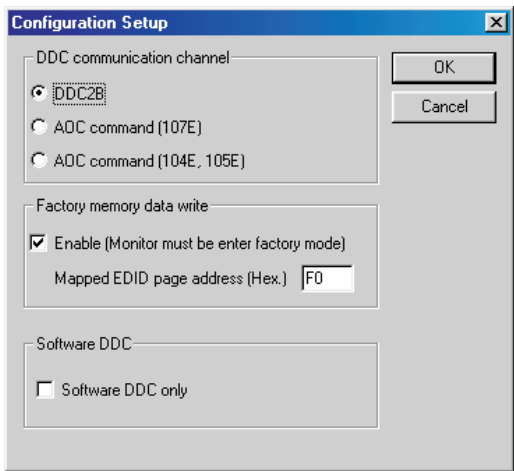

Fig. 16
1. Click  icon from the tool bar to bring up the Configuration Setup windows again. Then, select "Software DDC only" as shown in Fig. 16. Click "OK".
- 4. Access "Factory Mode" and enable "Software DDC only" as shown in Fig. 17 & Fig. 16.